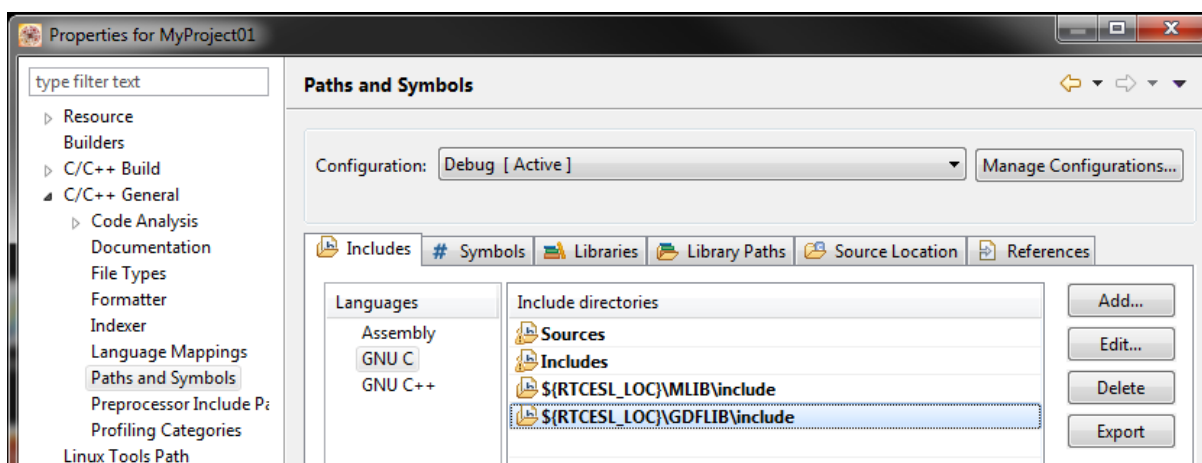

Figure 1-24. Compiler setting
15. In the right-hand dialog, select the Includes tab, and click GNU C in the Languages list. See Figure 1-24.
20. Click OK, and you will see the paths added in the list. See Figure 1-24. Click OK.